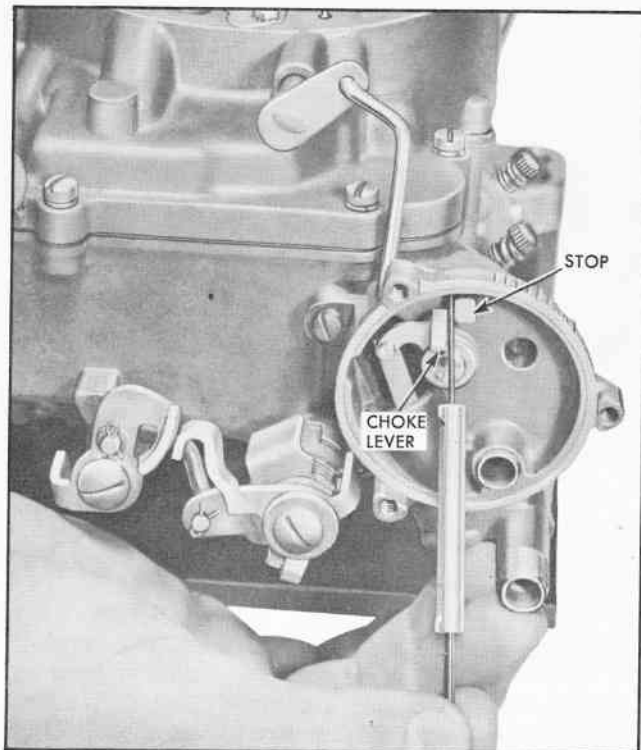

Fig. 27 Checking Choke Piston Lever Adjustment
4. There should be $.045$ " clearance (Gauge KMO-480-A) between choke lever and stop in piston housing (Fig. 27).